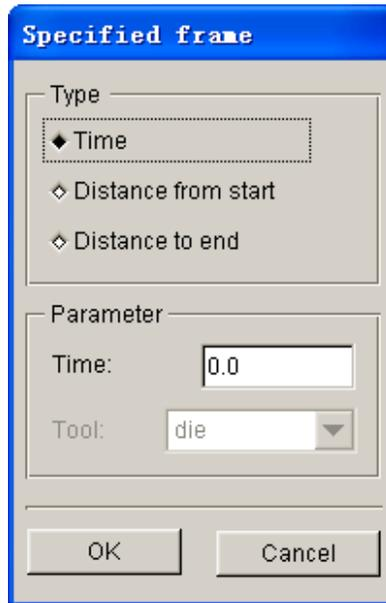

Figure 8.2.87 Input Specified Frame for Specified Time
**TIME:** Add an output frame by specified time. The interface is illustrated in Figure 8.2.87. The user may enter specified time in the TIME input data field at the lower part of the dialog box. Note: Specified time 0 is the stages starting point. The user may add more time points to control D3PLOT file output at specified time. If time is longer than current stage calculation time, the program will ignore the input value. Click